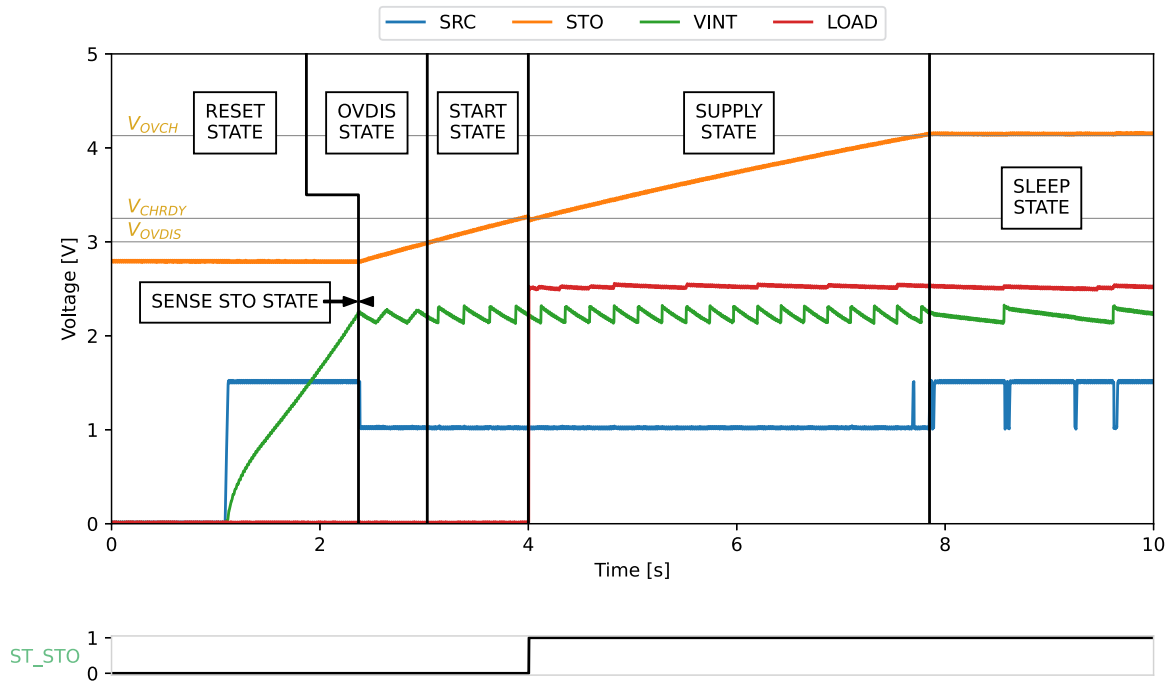

Figure 11: Start up behavior
- Around 8.6 s and 9.6 s on Figure 11, the AEM00920 recharges V_{INT} from **SRC** but remains in **SLEEP STATE**.